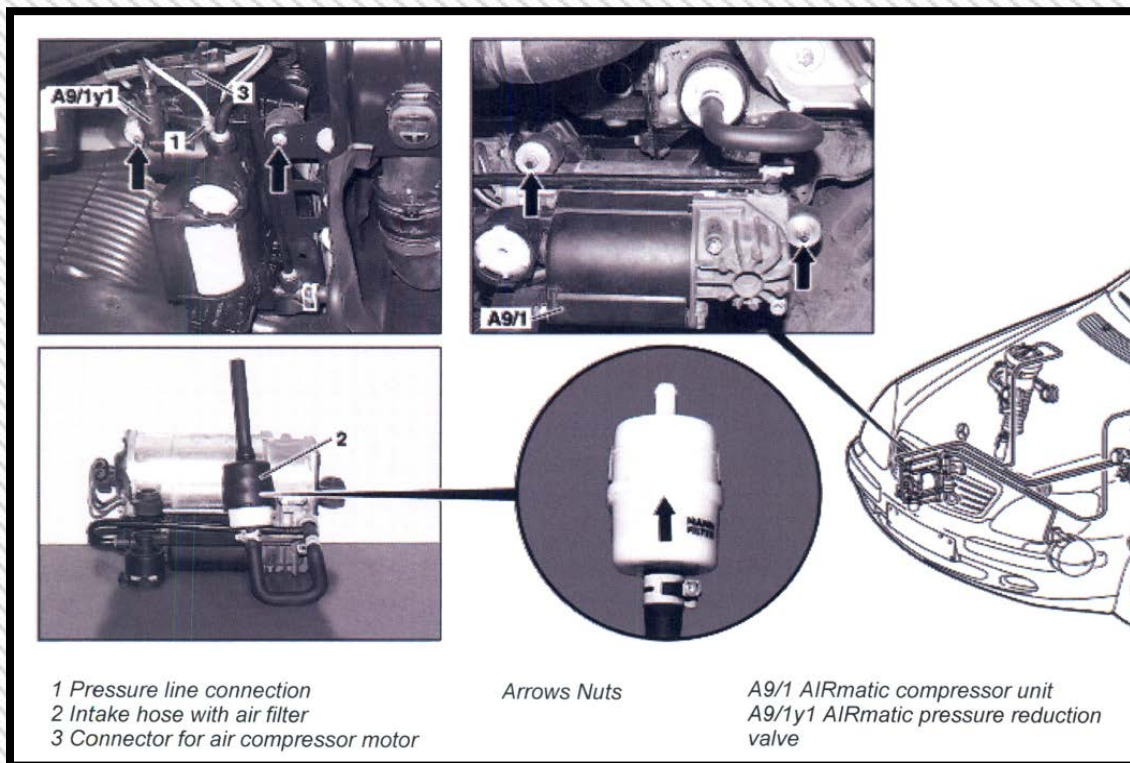

Figure 3.0
- 10.0 Unscrew pressure line connection (1) from the compressor unit (A9/1). (Figure 3.0)
- 11.0 Detach connector on the pressure valve (A9/1y1). (Figure 3.0)
- 12.0 Disconnect connector for air compressor motor (3). (Figure 3.0)
- 13.0 Pull intake hose air with filter (2) out of longitudinal member. (Figure 3.0)
- 14.0 Unscrew the three nuts (arrows) and remove the compressor unit (A9/1). When re-installing torque to 3 Nm/ 2.2 Lb-ft. (Figure 3.0)